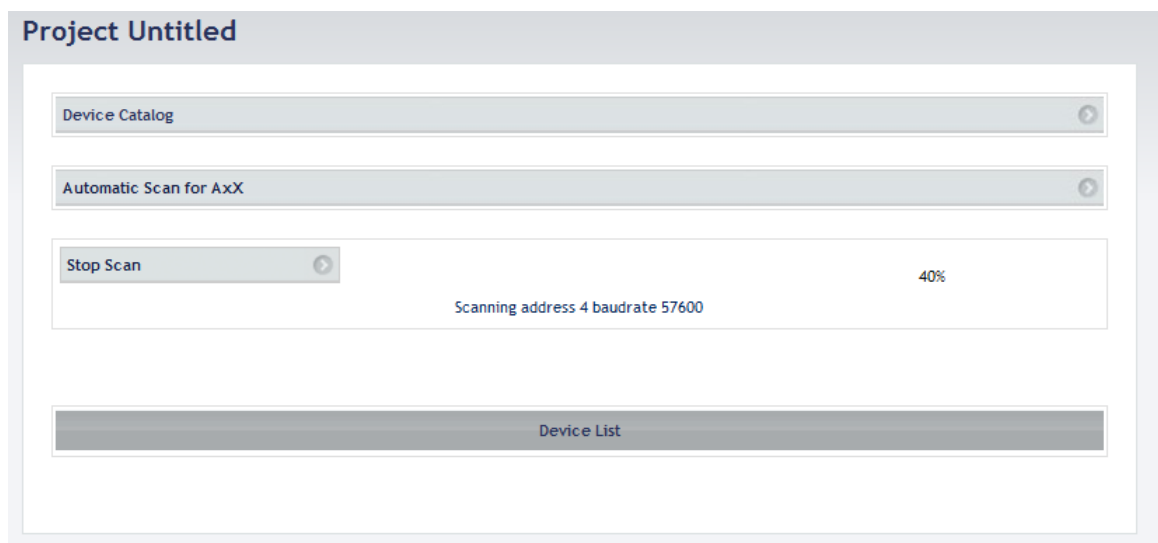

Figure 13 – Start scanning for AxX
- Make sure the cables physical connections are ready. Then press the “Start Scan” bar, the automatic scan is running. It will scan every baudrate from baudrate range and each address id from address range in Figure 13.